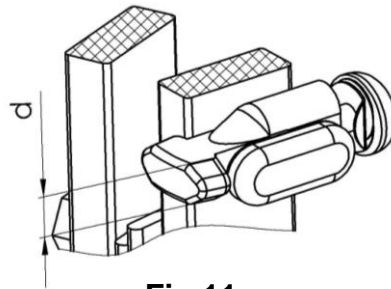

Fig.11
- Measure the thickness of the fixed contacts (Fig.11). If it is 1 mm less than the specified value in Table 1, then both the moving and the fixed contacts should be replaced with new ones. If the contacts are not mechanically worn out, the fixed contacts should be silver coated again.